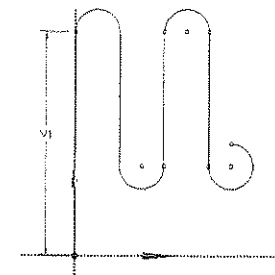

Figure 3-74 Placing the dimension of line 1
3. Click on the left of line 1 to place the dimension, as shown in Figure 3-74.